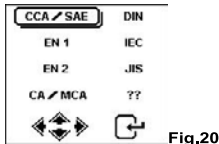

Fig.20
9. With the rating selection, the analyser screen will display as per Fig.20 below.